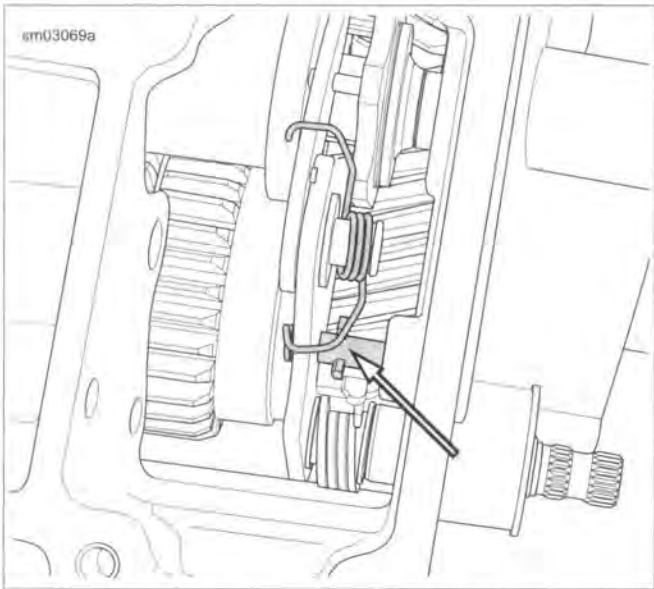

Figure 6-58. Shifter Shaft Lever Spring
6. See Figure 6-58. Verify that pin sits inside shifter shaft lever spring.